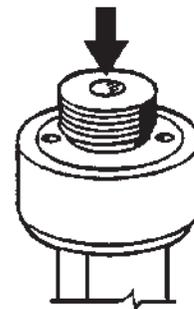

FIGURE 8-4
- c. Depress actuation plunger stem, located on top of valve, and relieve all container pressure. See Figure 8-4. It may be necessary to repeat this step a number of times until all pressure is relieved.